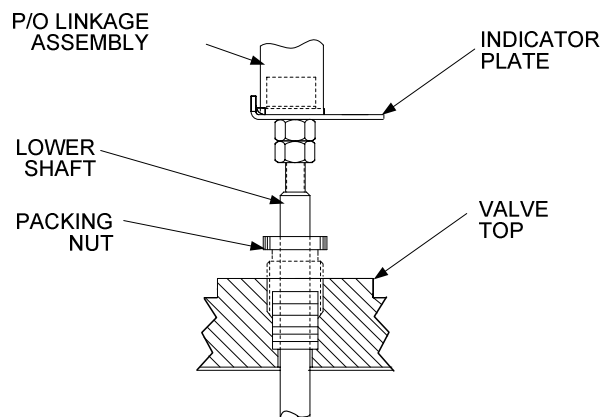

Figure 6-1. Valve Shaft Seals
1. Refer to Figure 6-1 and check the Packing Nut and Valve Top for evidence of leakage.